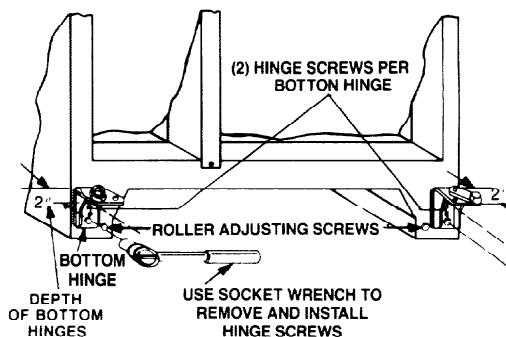

FIGURE 27
17. Mark around the lower hinge brackets with a pencil. See Figure 27.